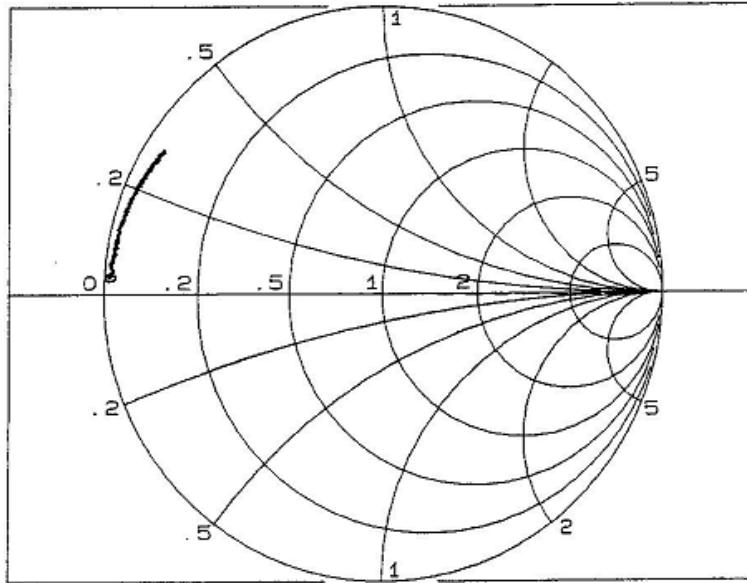
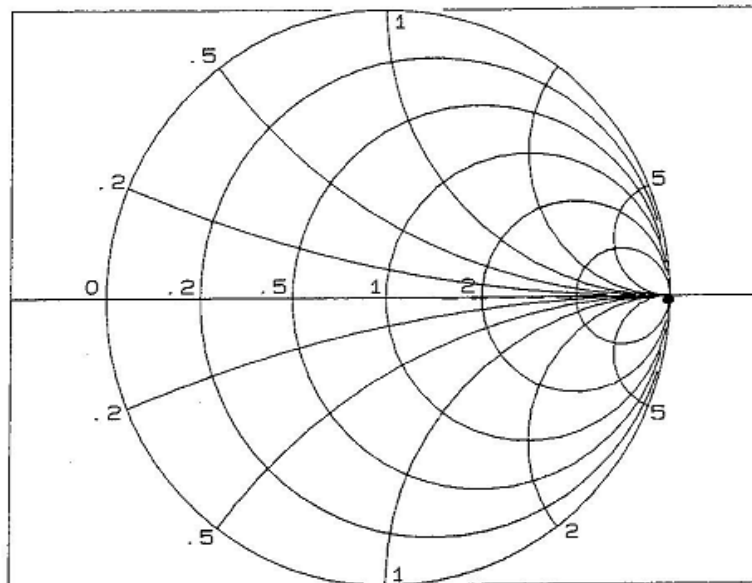

Figure 10. Impedance Plot of Functional Cokeva 11941C
Figure 11. Impedance Plot of Cokeva 11941C with Open Circuit
4. Connect the probe to Port One of the HP 35677A. The impedance display should appear as shown in Figure 10. At 100 kHz the measured impedance should approximate that of a short circuit; at 1 MHz the probe should measure inductively, with a maximum normalized impedance value of  $j0.50$ . The most common failure mode for this test would be an open in the input circuitry, in which case the impedance display would appear as shown in Figure 11.